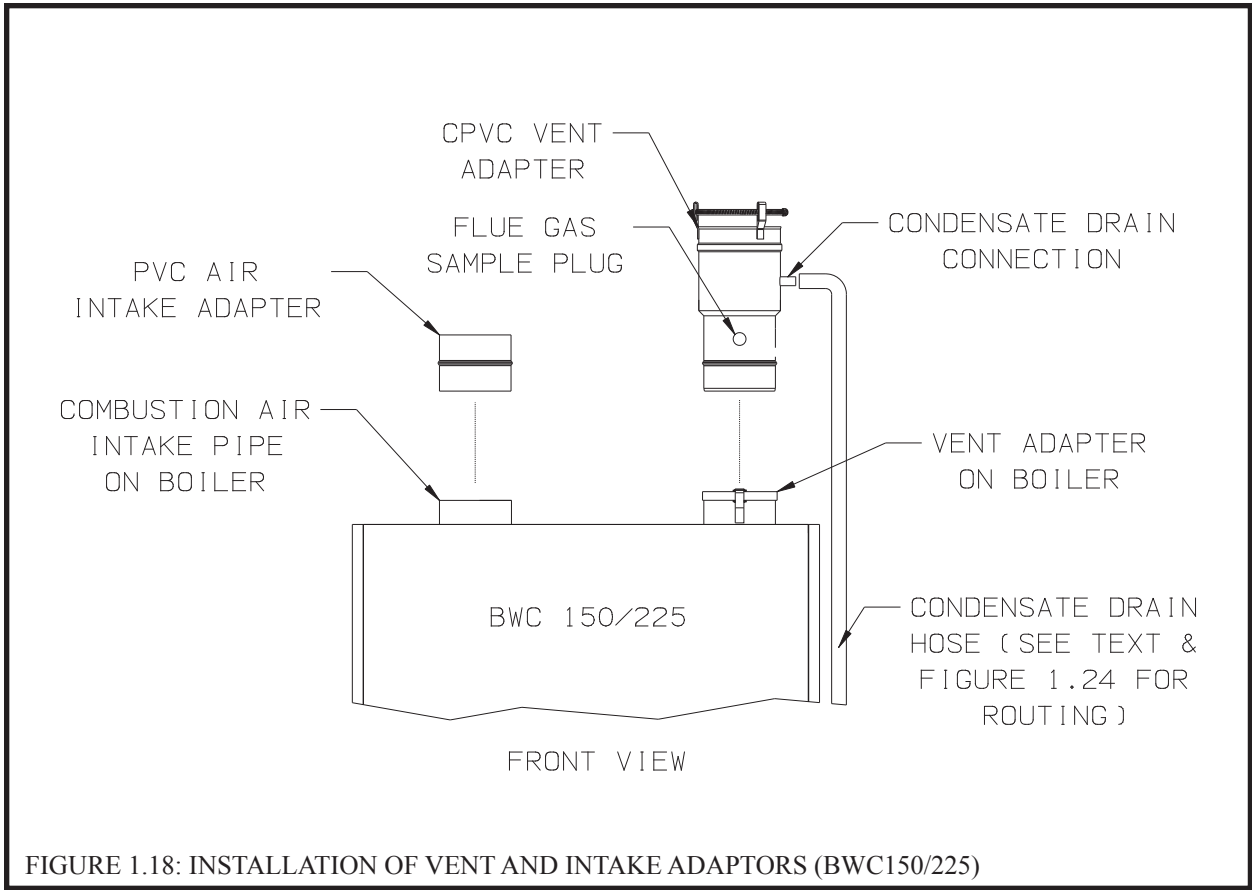

FIGURE 1.18: INSTALLATION OF VENT AND INTAKE ADAPTORS (BWC150/225)
BWC150, 225 - Install the vent and air inlet adaptors as shown in Figure 1.18.
- h. Verify that the silicone gas sample cap is in place (Figure 1.18).
- i. Attach the 1/2" ID Clear tubing provided to the condensate drain connection (Upper 1/2" tube) as shown in Figure 1.18. Secure with one of the hose clamps provided.
- n. Slip the air inlet adaptor into the intake collar on the top of the boiler as shown in Figure 1.18. Secure with at least one #10 sheet metal screw.